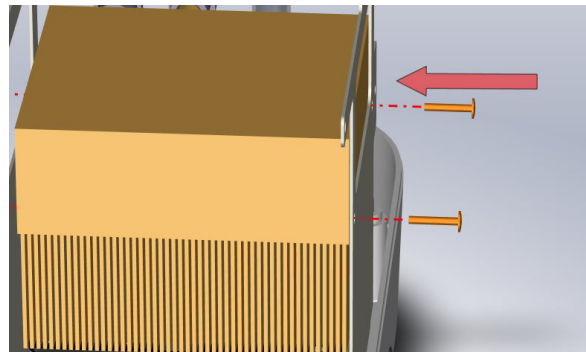

Figure 130 - Step 2 Install 2 screws attaching TE module to the front bracket
2. Install the TE Module onto the **front bracket** with two #8-32 x 3/8" truss-head screws (Figure 130).